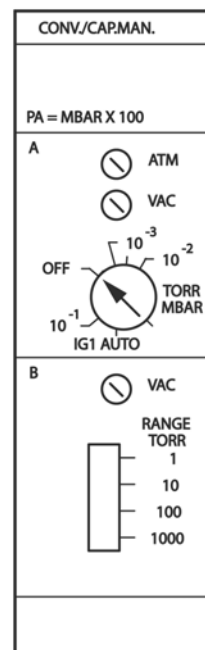
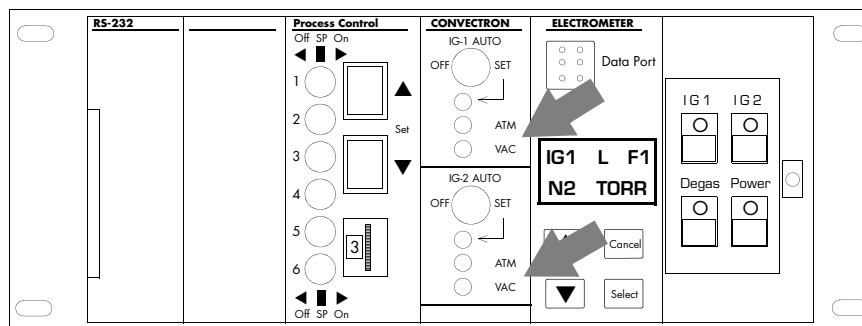

Figure 4-16 Convectron / Capacitance Manometer Module Panel
Figure 4-17 Control Unit Front Panel (with Door Open) Showing Convectron Gauge Zero and Atmospheric Adjustments
Only IG1 is turned on with the Convectron/Capacitance Manometer potentiometer from Convectron A. See Figure 4-16.
2. With power on and at vacuum less than 1×10^{-4} Torr for at least 15 minutes, adjust VAC for gauge A (see Figure 4-17) until display A indicates 0.0 0 Torr/mbar or 0.0 0 Pa, not 1.0 -4, 1.0 -2, or 0.0 -0.
5. With the power on, adjust ATM adjustment A (see Figure 4-16 and Figure 4-17) until gauge display A indicates the local atmospheric pressure in the pressure units you have selected.